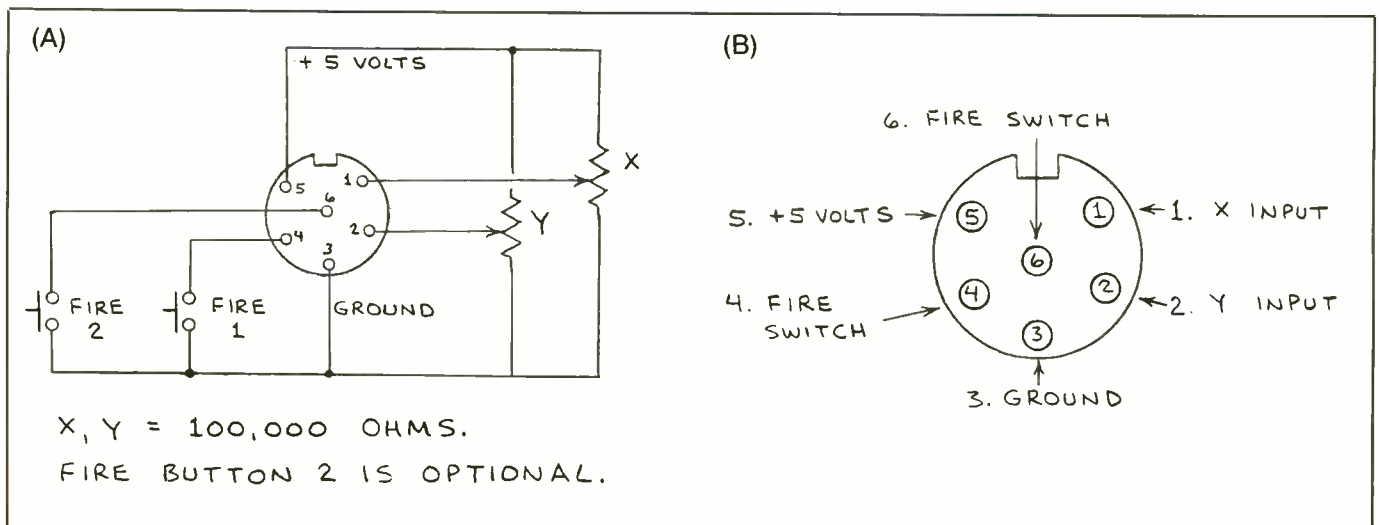

Fig. 2. Tandy 1000 joystick circuit (A) and socket connections viewed straight-on (B).
Shown in Fig. 2(A) is the internal circuit diagram of the joysticks used with the Tandy 1000 computer. Note that these joysticks are simply two mechanically linked potentiometers. Each potentiometer is connected across a 5-volt dc supply provided by the computer. The center tap of each potentiometer then provides a potential that varies from nearly 0 to almost 5 volts as the potentiometer's shaft is rotated. In other words, each potentiometer in the joystick functions as a basic voltage divider.
With this caveat in mind, we can now go on to connect a resistive-type sensor directly to the input of the computer. Figure 2(B) shows the pin connections for the joystick sockets of the Tandy 1000. To connect an external sensor to the computer, it is necessary to make an appropriate cable and plug assembly. Radio Shack's Tandy 1000 series computers require a 6-pin DIN-type plug for each joystick port. This plug is available from Radio Shack as Cat. No. 274-020.
Caution: Use care when making and using a cable designed to be used with a joystick port. As shown in Fig. 2(B), the joystick port incorporates a 5-volt supply. Inadvertently shorting these power-supply leads may reset the computer or possibly even damage its internal circuitry.